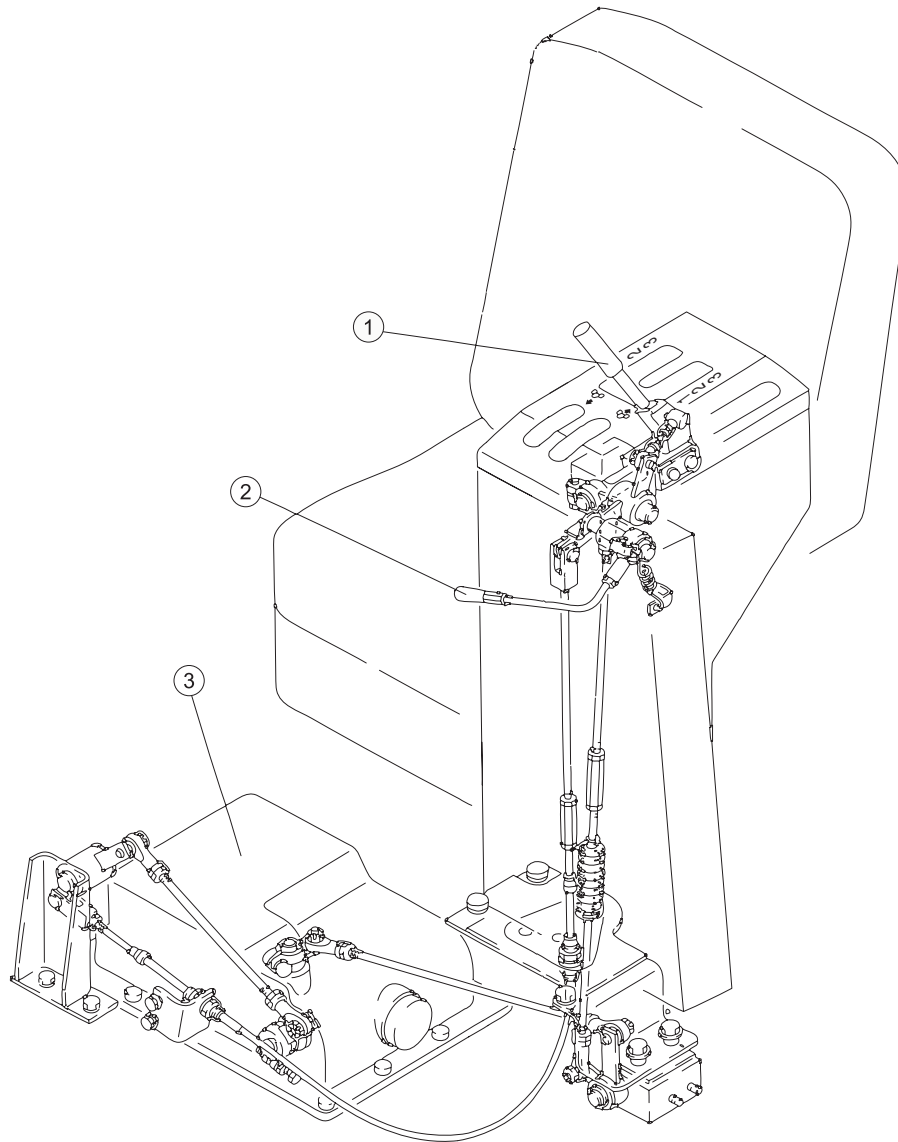

Figure 3-39
3.9.1 GEAR SHIFT (SEE FIGURE 3-39)